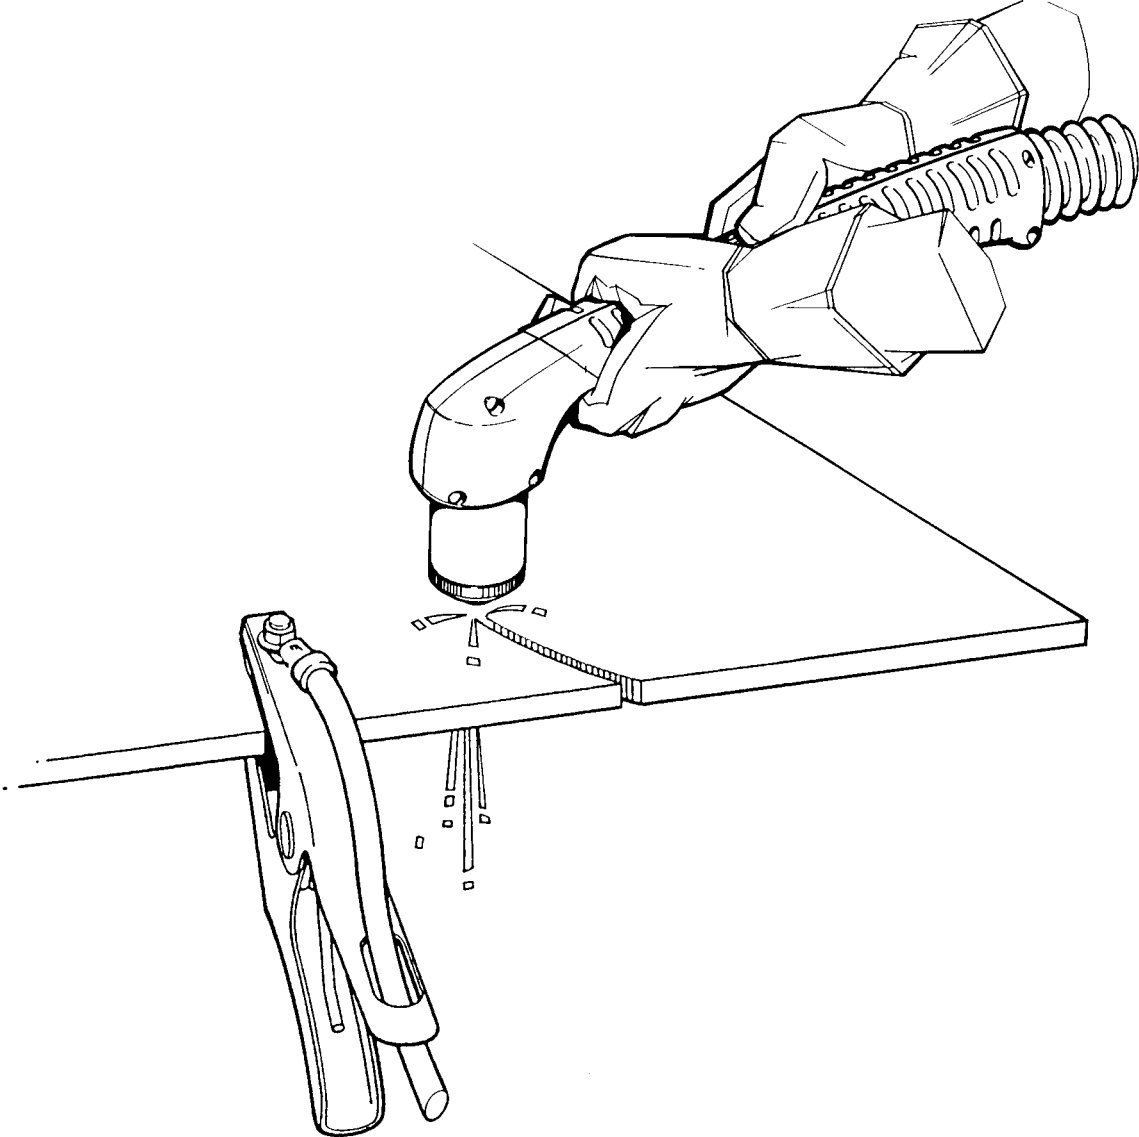

Figure 3-8 Proper Work Clamp Connection
2. Do not attach the work clamp to the portion of the workpiece being cut away (see Figure 3-8).